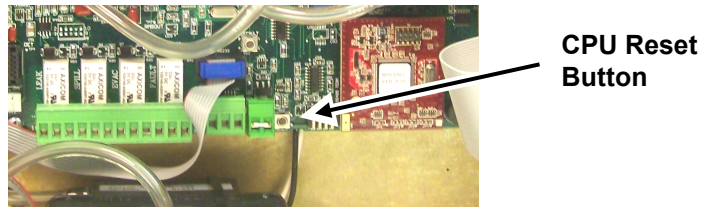

Figure 19. Location of CPU Reset Button
- m. After configuring all parameters, press the CPU reset button on the bottom edge at the center of the main circuit board (refer to Figure 19). The monitor will restart and enter the warm-up state.